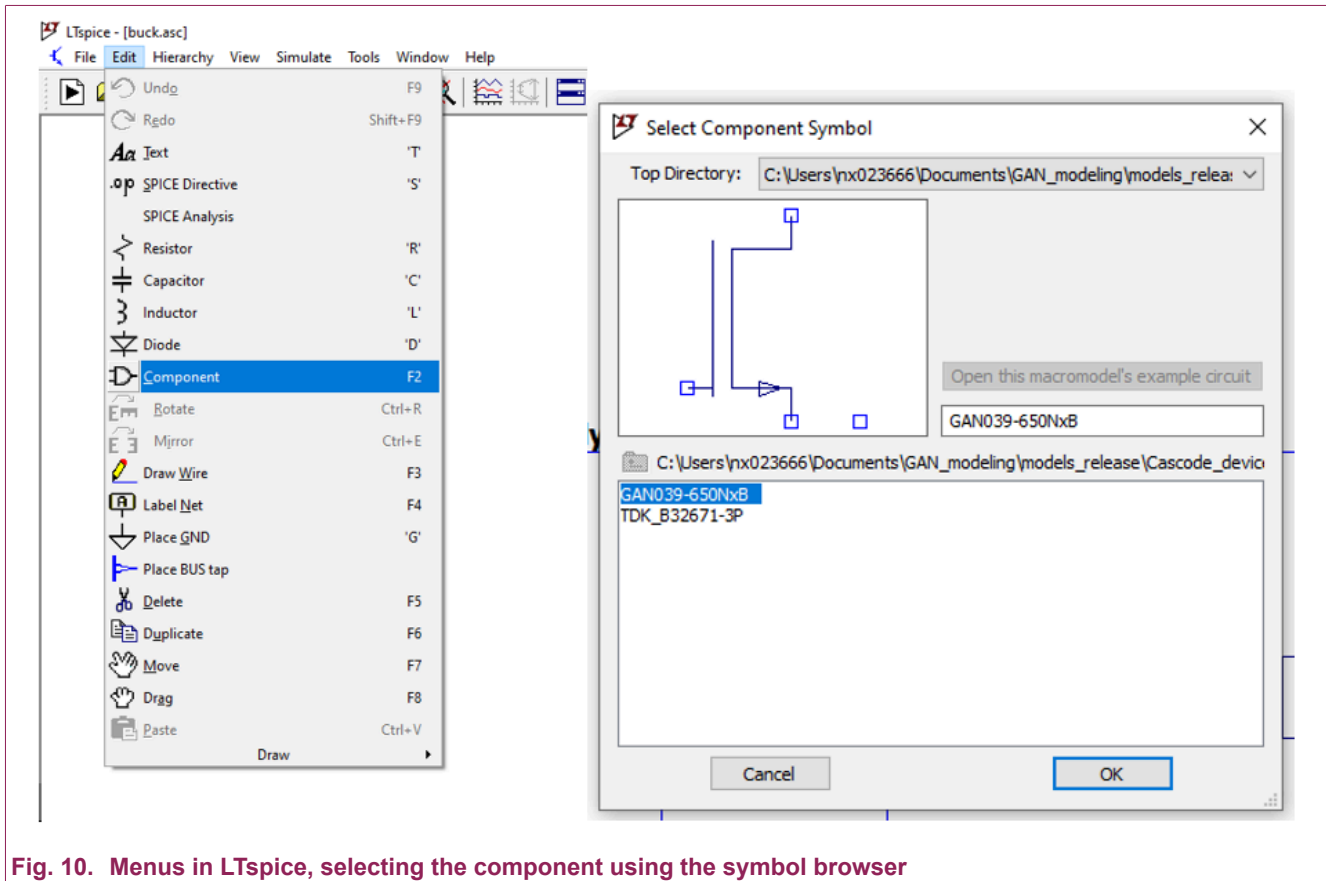

Fig. 10. Menus in LTspice, selecting the component using the symbol browser
1. Place the symbol .asy and library .lib files into the same folder as your circuit, see Fig. 10: